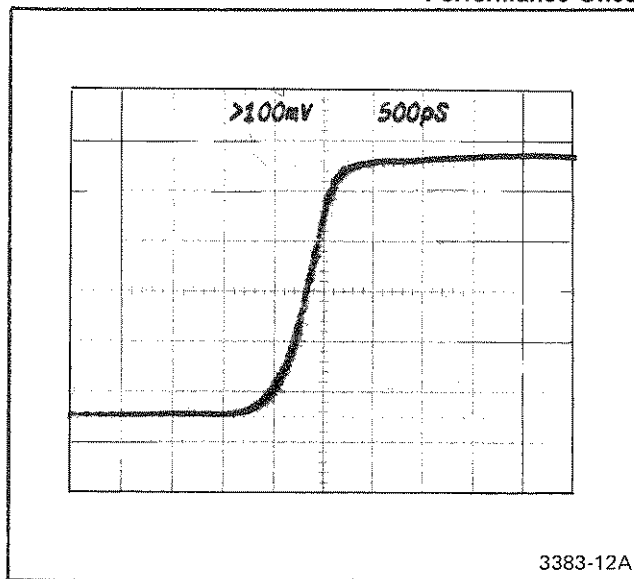

Fig. 4-2. Typical response curve of sampling system.
q. Using the 7S11 Dc Offset, center the step top in the display area. Refer to Fig. 4-2.
s. The sampling system aberrations can now be determined, and noted (for use in checking risetime and aberrations). Refer to Fig. 4-2.
n. Position the display to measure the risetime. Refer to Fig. 4-2.